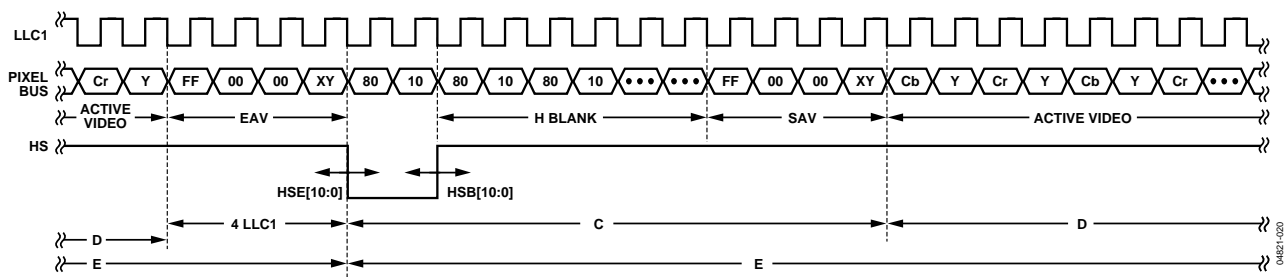

Figure 20. HS Timing
The position of this edge is controlled by placing a binary number into HSB[10:0]. The number applied offsets the edge with respect to an internal counter that is reset to 0 immediately after EAV code FF,00,00,XY (see Figure 20). HSB is set to 00000000010b, which is 2 LLC1 clock cycles from count[0].
**Table 100. HS Timing Parameters (see Figure 20)**
The position of this edge is controlled by placing a binary number into HSE[10:0]. The number applied offsets the edge with respect to an internal counter that is reset to 0 immediately after EAV code FF,00,00,XY (see Figure 20). HSE is set to 00000000000b, which is 0 LLC1 clock cycles from count[0].